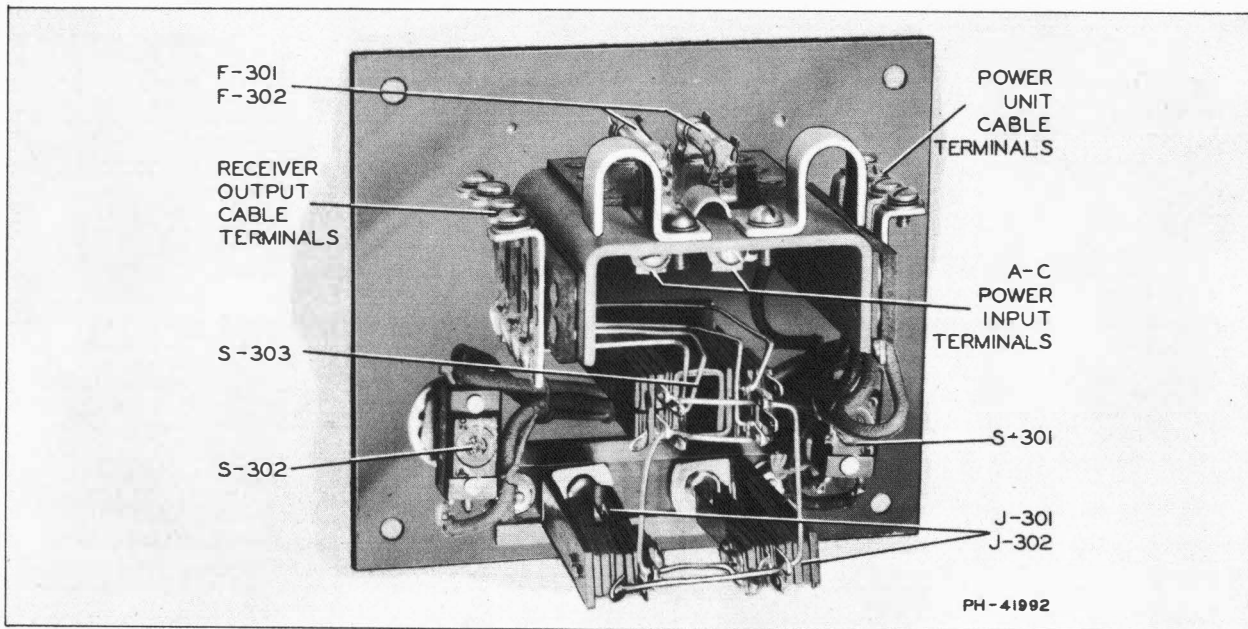

Figure 5—Control Unit CRV-23073 (Rear View of Panel)
- 8.4-1 The control unit contains output jacks, mixer switch and power switches mounted on the panel. (See Figure 5.) Fuses and terminal boards are mounted on a bracket secured to the panel. The case may be permanently mounted to any flat surface (see Figure 15).
- 9.6 Control Unit CRV-23073 (see Figure 5) is shown schematically in Figure 19. The use of this control unit makes possible the guarding of two channels simultaneously. The output of each receiver feeds into the control unit where a 3-position switch is provided which makes available, in the two headphone jacks, signals from either or both of the receivers. Two power switches also are provided on the control unit panel for controlling the power to each receiver independently. The a-c power supply feeds into the control unit and each side of the line is fused. The two supply cables connect to suitable terminals on the power units, which terminals are arranged to omit from the circuit the switch and the fuses in the power unit.